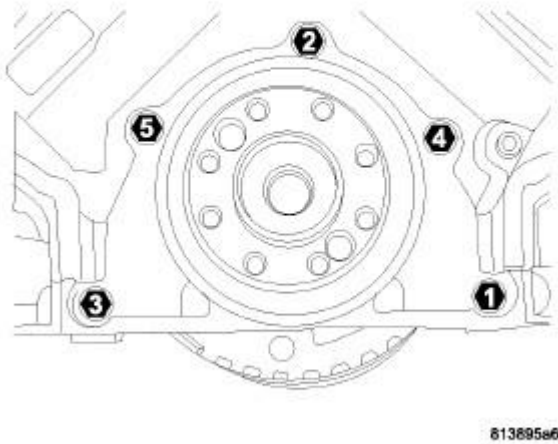

Fig. 179: Rear Seal Retainer Torque Sequence
4. Using the sequence shown in illustration, install the crankshaft rear oil seal retainer mounting bolts and tighten to 15 N.m (11 ft. lbs.). See **Fig. 179**.